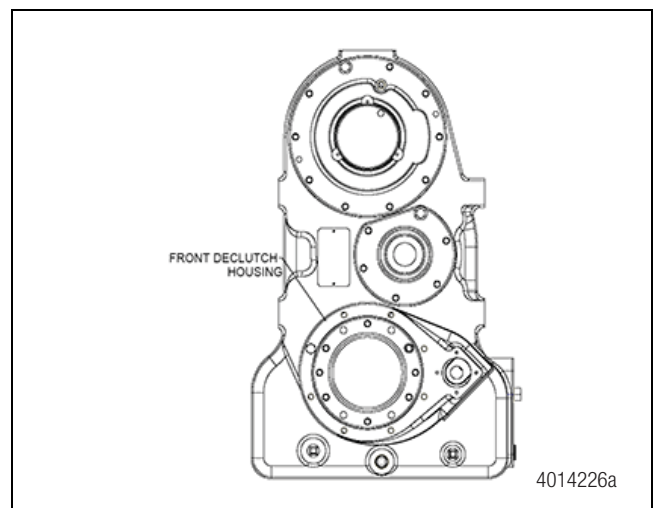

Figure 6.37
4. Position the front declutch housing on the transfer case such that the shifter shaft bores are directly to the left of the lower shaft bore (as viewed when the unit is installed in the vehicle). Figure 6.37.
8. The word "TOP" on the rear carrier must be toward the top of the transfer case as installed in the vehicle as in Figure 6.37. Install the ten cap screws and washers to secure the carrier to the TC housing. Torque to specification.